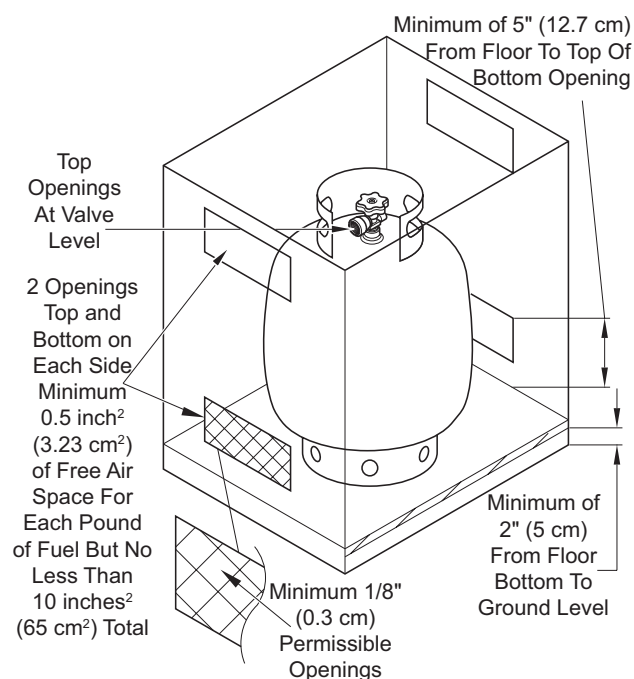

Figure 12 - Propane/LP Tank Enclosure
- An enclosure must have either one open side or at least four opposing vent openings, top and bottom, which meet minimum requirements for size and location (see Figure 12).